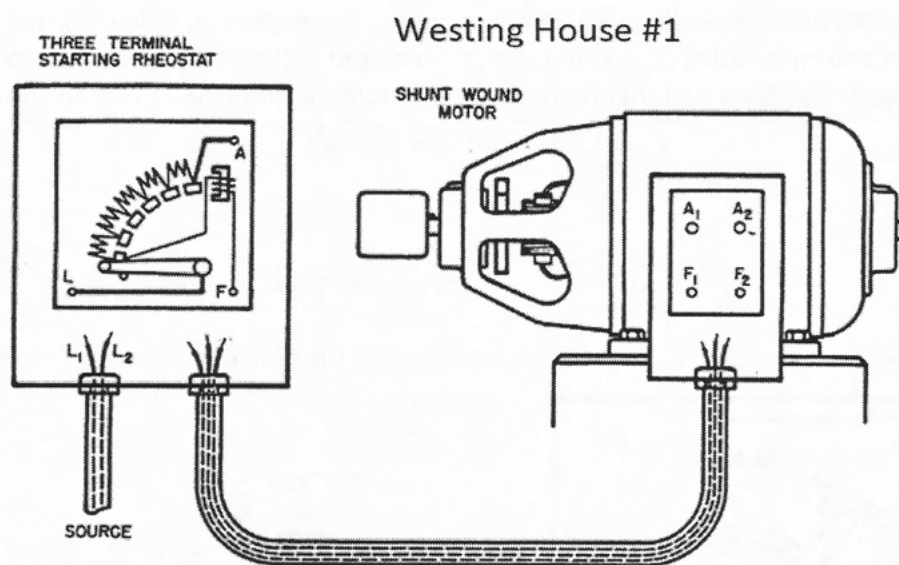

Figure 6
1. Complete the connections in (figure 6) so that the shunt motor is properly connected to the indicated device. Have the motor rotate CW.